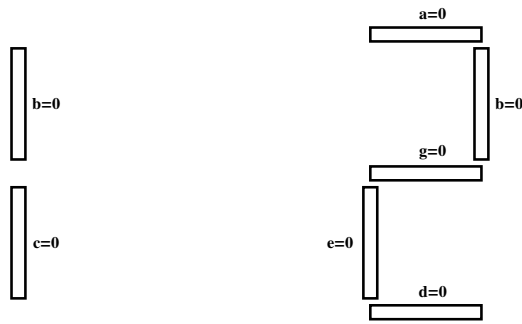

Fig. 2.3: Seven Segment connections
2.2.2 Controlling the Display: Fig. 2.3 explains how to get decimal digits using the seven segment display. GND=0.
3. Draw the numbers 0-9 as in Fig. 2.3 and complete Table 2.4